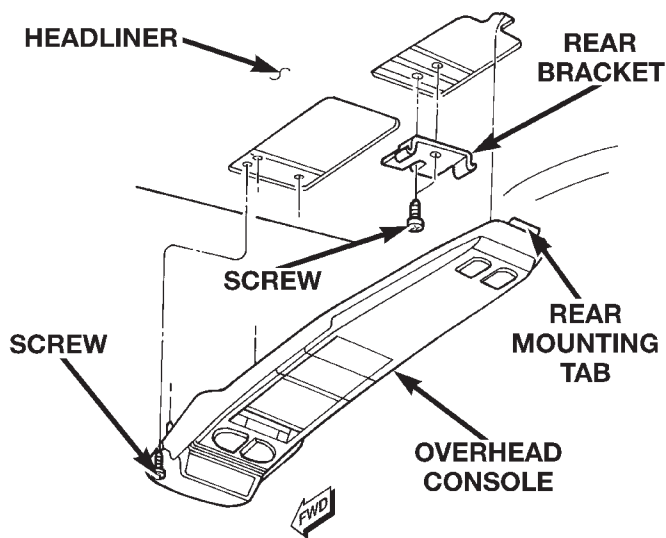

Fig. 8 Overhead Console Remove/Install
(1) Disconnect and isolate the battery negative cable.
(2) Remove the two screws located forward of the display module that secure the overhead console to the upper windshield opening reinforcement (Fig. 8).